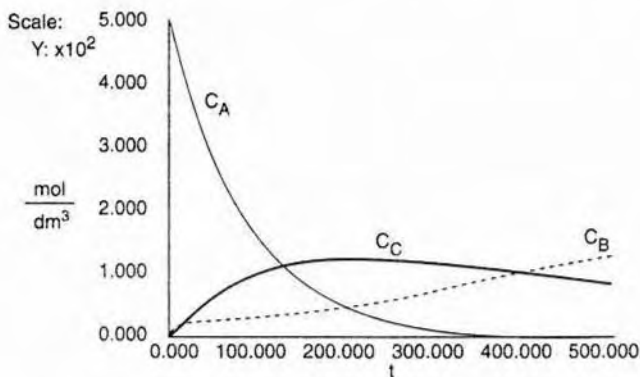
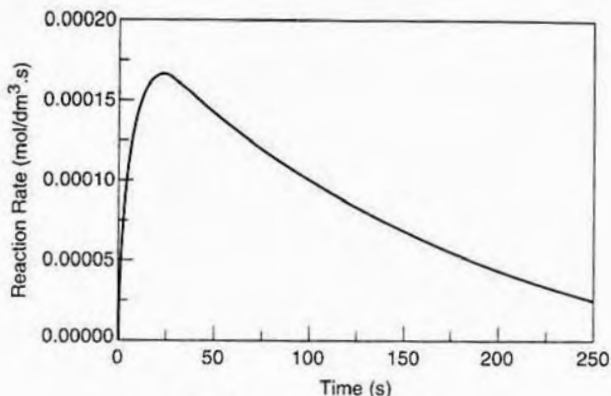

Figure E4-9.1 Polymath output: Concentration-time trajectories.
Figure E4-9.2 Reaction rate-time trajectory.
The concentrations of bromine cyanide (A) and methyl amine are shown as a function of time in Figure E4-9.1, and the rate is shown in Figure E4-9.2.